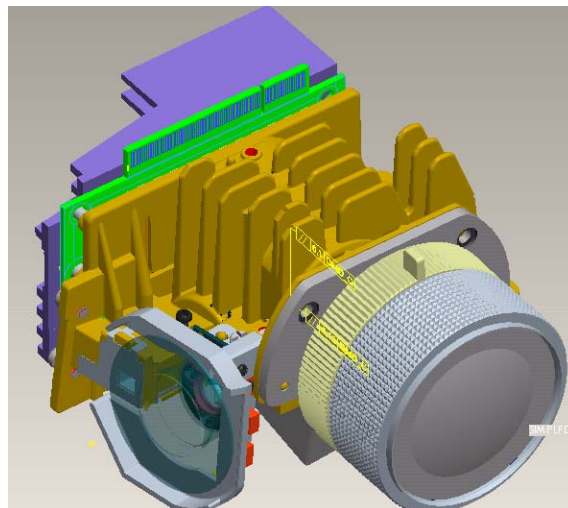

Fig. 10-6
10.6 Assemble CW Module and fasten screw (Fig. 10-6)